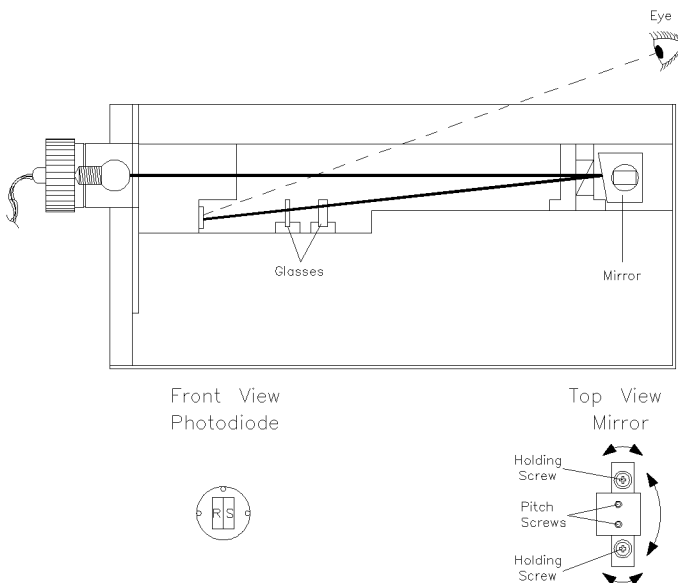

Figure 3-11. Location of Photodiodes
4. Figure 3-11 shows the location of the photodiodes inside the optical unit. The photodiodes can be seen by looking from the rear of the optical unit as shown. The Figure also shows the possible movements of the mirror during adjustment.
- The mirror can move in several directions, as shown in Figure 3-11. This means that a very clear procedure for moving the mirror is not really possible. You must find the mirror position which best meets the requirements of maximum intensity and photodiode equality.